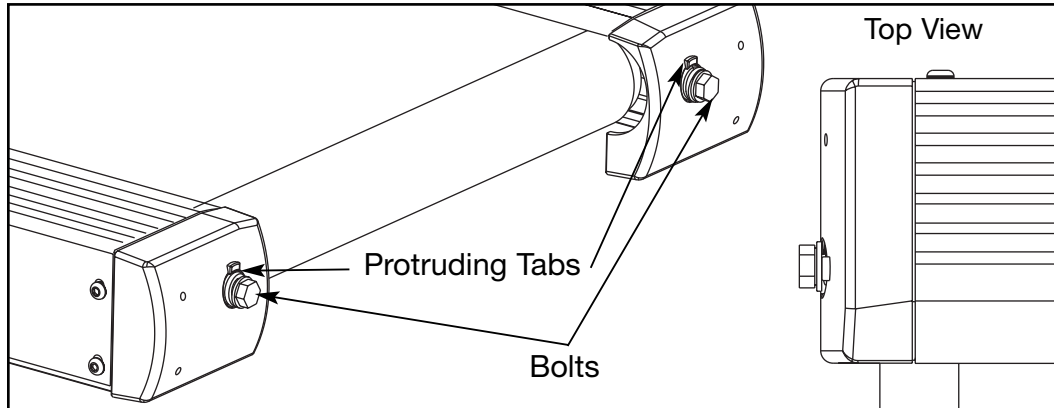

Figure 1
The running belt may become loose and slip on the drive roller with each foot plant. The 900T is equipped with visual indicators of belt tension. These are located at the rear of the treadmill where the two 3/4" bolts protrude from the plastic end caps. See Figure 1. These are designed to indicate if the running belt is at the proper tension to insure safe operation of the unit. If the belt has become loose, the silver colored washer located under the bolt will move out slightly from the protruding tab molded in the end cap. See the *Service Schedule* in this chapter to determine the minimum recommended checking of the belt tension.
- Use a 3/4" wrench to turn each bolt clockwise until the silver washers are flush with the protruding the tab on the end caps. See Figure 1.